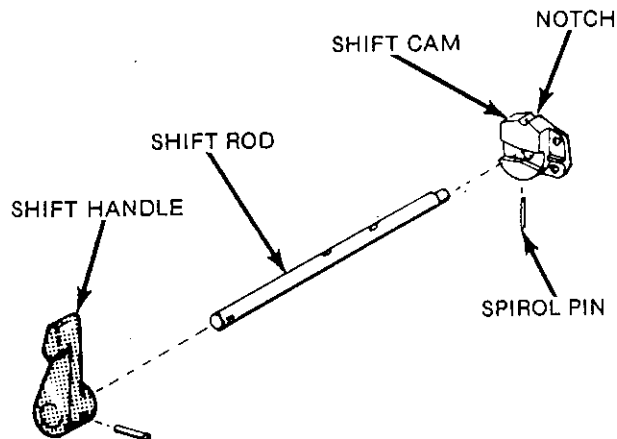

Figure 30
- (1) Install "O" ring in shift rod bore in column nearest flat spring location.
- (2) Install sleeve bushings.
- (3) Install shift handle on shift rod and retain with spirol pin.
- (4) Install shift cam on shift rod so notch aligns with shift handle as shown in Figure 30. Retain shift cam with spirol pin.
- (5) Install lockout rod on shift cam.
- (6) Place spring washer on shift rod and insert shift rod in column.
- (7) Install washer and then shift lever on shift rod as shift rod enters drive shaft bore of column.
- (8) Position shift lever on shift rod so arms on shift lever are pointing downward while shift handle is vertical. Drive spirol pin into shift lever and shift rod.
- (9) Install flat spring.